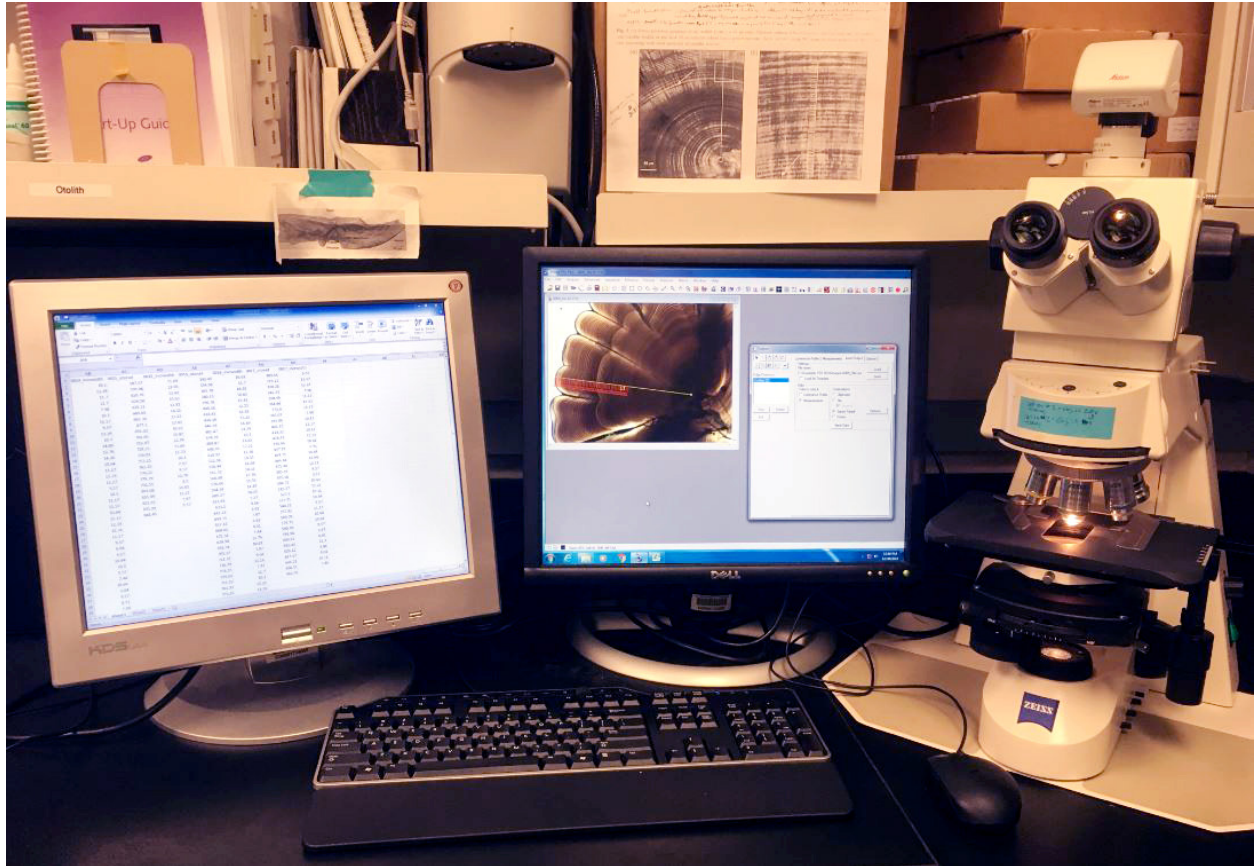

Figure 5. Image analysis workstation.
- Light microscope with camera attached (Figure 5).
- Computer with Image Pro software installed (Figure 5).